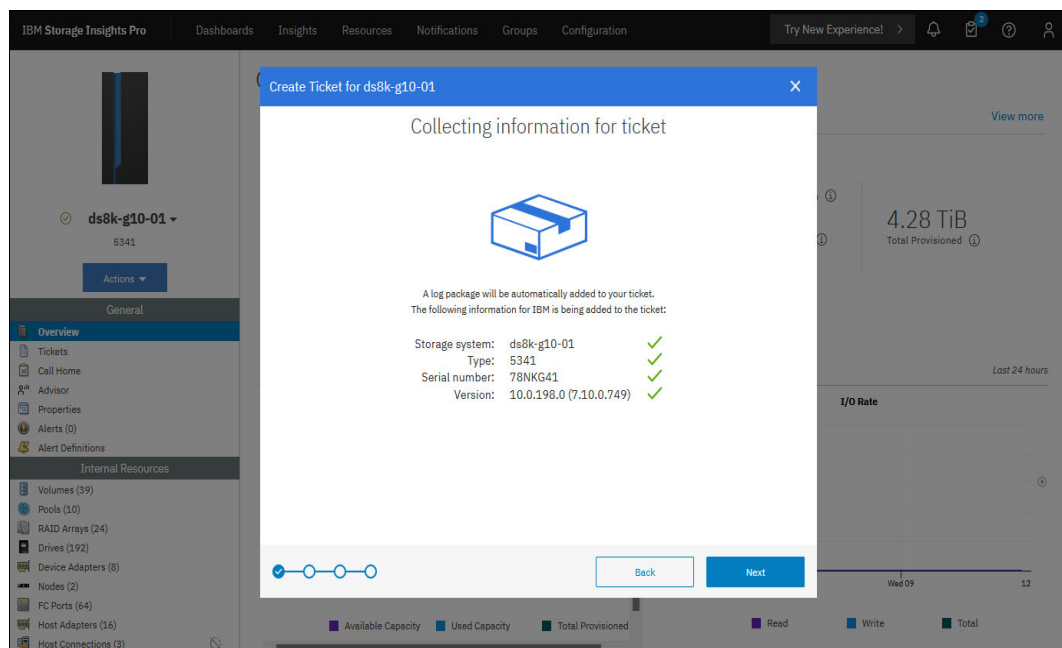
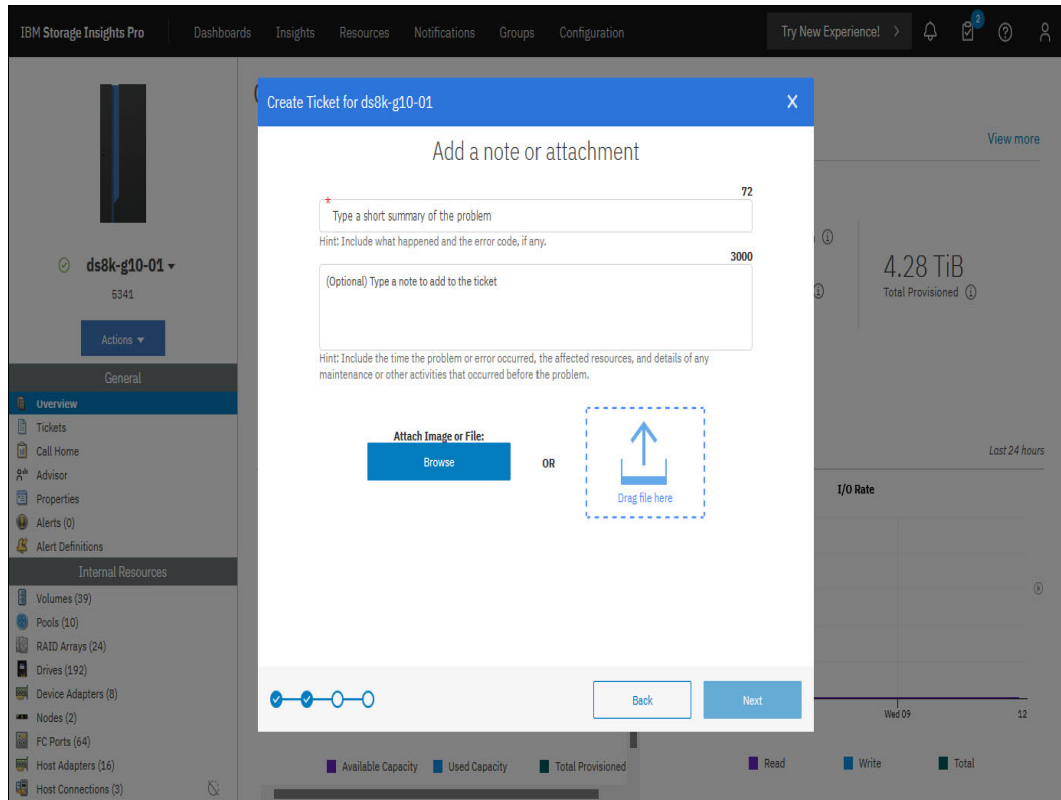

Figure 12-21 IBM Storage Insights: Collecting ticket information
Figure 12-22 IBM Storage Insights: Ticket summary
Figure 12-21 shows the process of collecting the needed ticket information, which includes the details of the DS8000 storage system.
- In Figure 12-21 on page 433, click **Next**. In the window that opens, you describe the reason for opening the ticket with IBM. The mandatory field for the summary is limited to 72 characters. Figure 12-22 shows an optional field that you can use to provide more details.